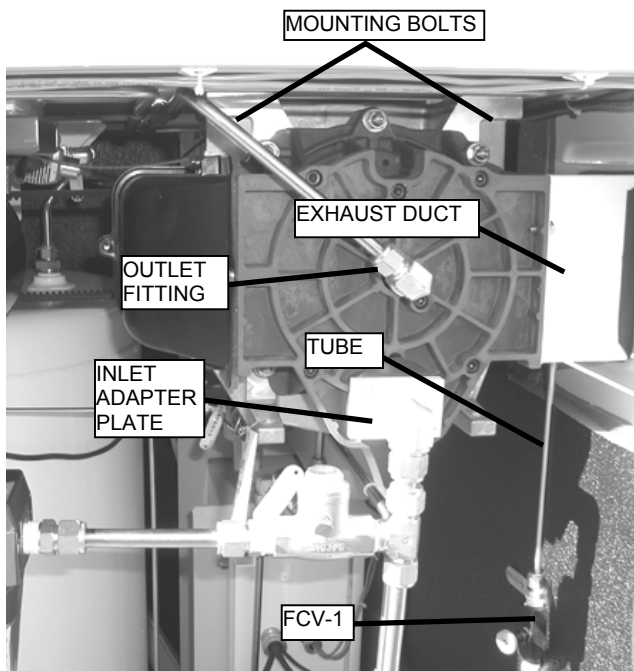

Figure 11. Scroll Compressor Mounting Bolts.
- b. Remove the inlet adapter plate from the scroll compressor. Refer to Figure 11.
- c. Remove the outlet tube from the outlet fitting. Refer to Figure 11.
- f. Remove the tube from the flow control valve (FCV-1). Refer to Figure 11.
- g. While supporting the scroll compressor, remove the mounting bolts, nuts and washers that attach it to the upper frame of the EDOCS-120 (see Figure 11).
- d. Install the tube to the flow control valve (FCV-1) by first inserting the tube in the hole in the exhaust duct then on the fitting on the valve. Tighten the fitting snugly. Refer to Figure 11.
- e. Install the outlet tube to the outlet fitting on the scroll compressor. Refer to Figure 11.
- f. Assemble the inlet adapter plate to the inlet port on the scroll compressor. Ensure that the rubber gasket is in place. Refer to Figure 11.